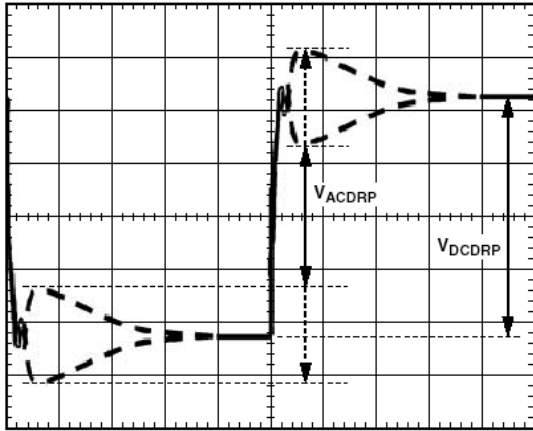

Figure 8. AC Loadline Waveform
15. You will see a waveform that looks something like Figure 8. Use the horizontal cursors to measure V_{ACDRP} and V_{DICDRP} as shown. DO NOT MEASURE THE UNDERSHOOT OR OVERSHOOT THAT HAPPENS IMMEDIATELY AFTER THE STEP.